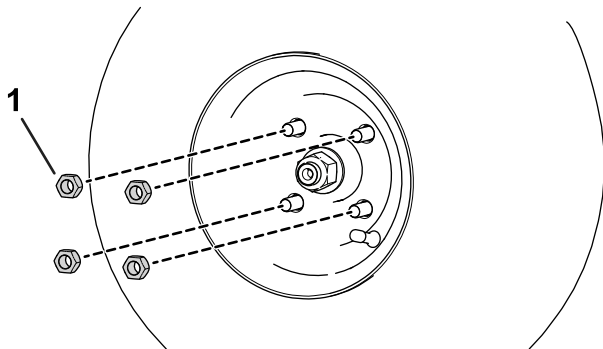

Figure 57
- A. Loosen and remove the wheel lug nuts (Figure 57).
- B. Install the wheel lug nuts (Figure 57).